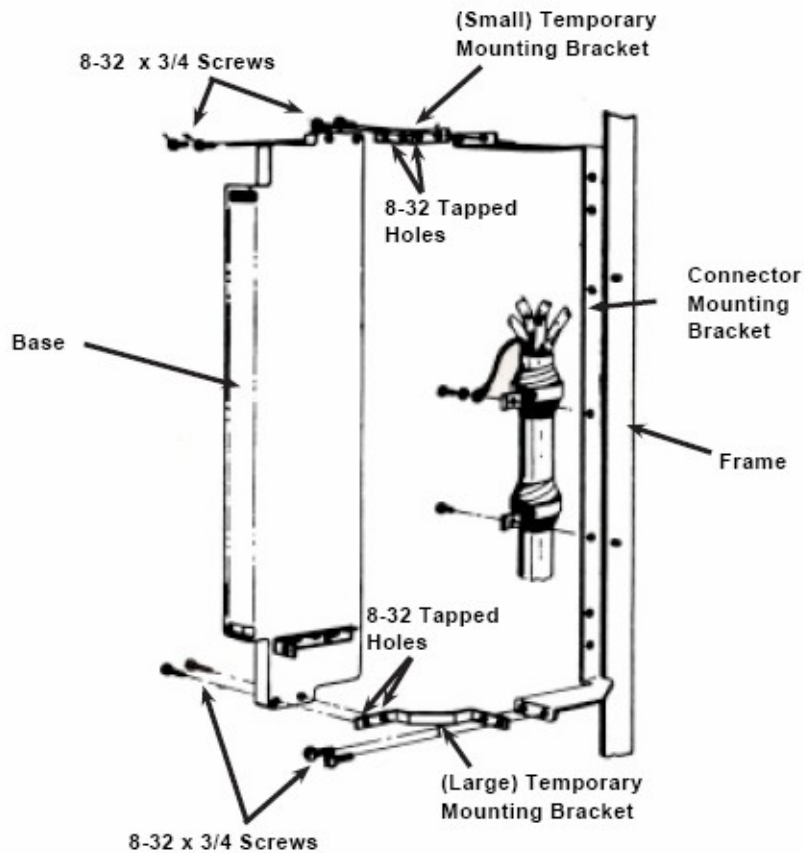

Figure 7 – C(G)-310 Connector on Temporary Mounting Brackets
7.2.1 Remove the four (4) 8-32 screws holding the plastic base to the mounting bracket (Figure 7). Set the base aside and save screws.
7.2.2 Mount the temporary mounting brackets to the mounting bracket on the frame by using the four (4) 8-32 screws provided. Use the small temporary mounting bracket on top and the large temporary mounting bracket on bottom (Figure 7).